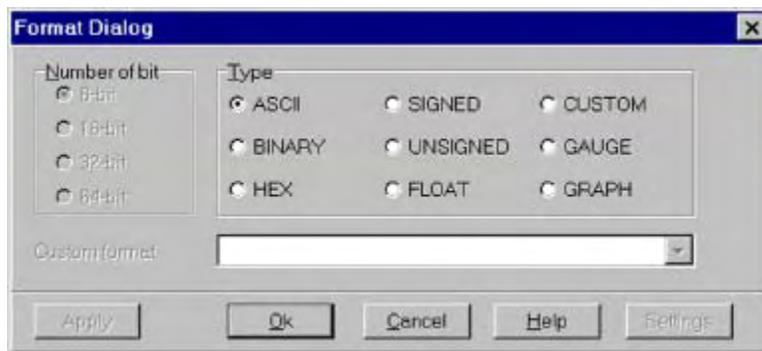

Figure 62. Format Dialog Box
4. To change the Data Display mode, right-click the Data window and select **Display As**. The **Format** dialog box appears (Figure 62).